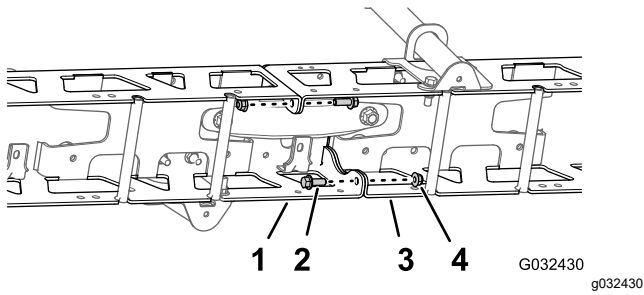

Figure 54
1. Remove the 2 flange head bolts (3/8 x 1 inch) and 2 locknuts (3/8 inch) that secure the vertical flanges of the left and right truss frames (Figure 54).